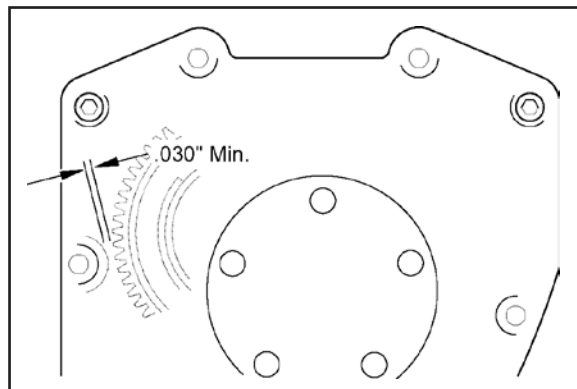

Figure 5
- N- Press a small piece of clay or kneadable putty on cam cover mounting boss shown. **See Figure 5 above right.** Carefully hold cover and cover gasket in position against crankcase. Install mounting bolts (4) near corners of cover finger tight. Push or tap cam cover towards front of engine.